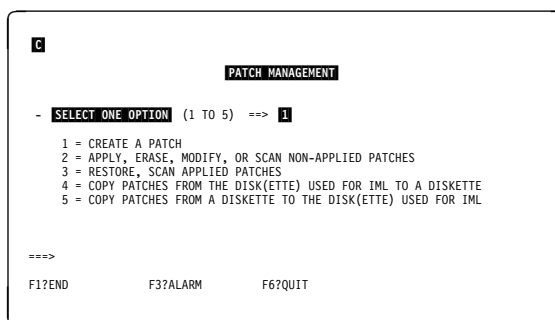

Figure 8-5. Patch Function Selection Screen
1. Select option **1** in the screen of Figure 8-5 on page 8-5. Screen **D** is displayed.